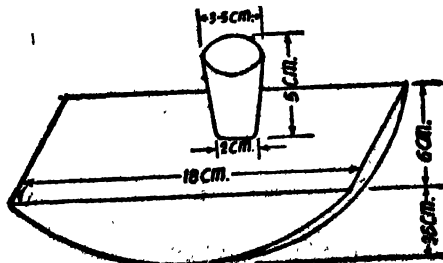

Fig. 5-31
8. Fig. 5-31 shows an ink blotting block of aluminium of density 5.8 gm/c.c. Find the weight of block. (Ans. 1.65 kg)
9. Estimate the weight of M.S. spindle for a spring compressor as shown in Fig. 5.31. Assume density of steel as 7.8 gm./c.c.